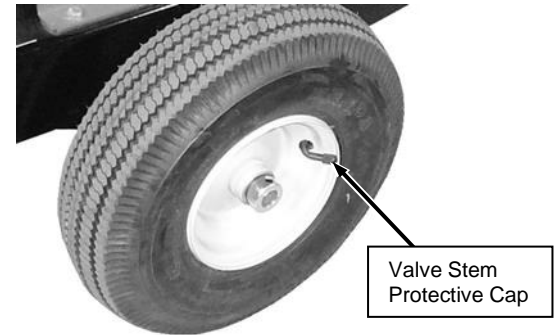

Figure 22: Highway Wheels Only
- Remove the Valve Stem Protective Cap and check the tire pressure with a Tire Pressure Gauge (**Figure 22**).